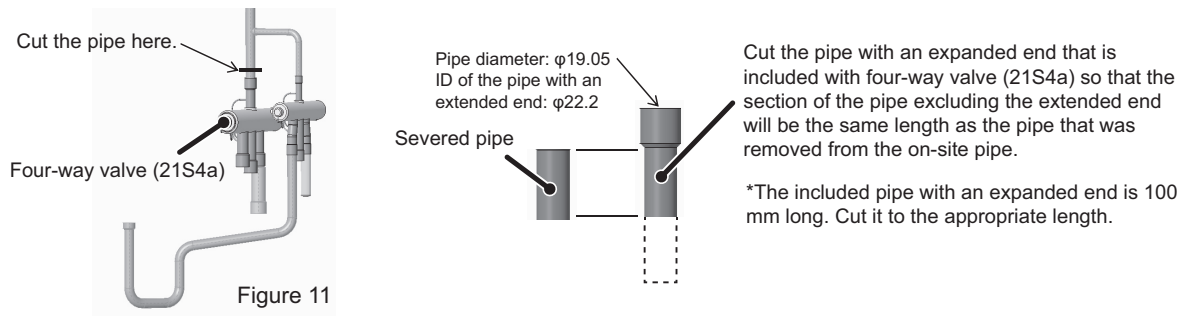

Figure 11
- (11A) To make it easier to connect four-way valve (21S4a), cut the pipe end below the raised hole (cut off the section covered with brazing filler) on the pipe with a pipe cutter. Cut the pipe with an expanded end that is included with four-way valve (21S4a) to the same length as the pipe that was removed from the on-site pipe. (See Figure 11.)